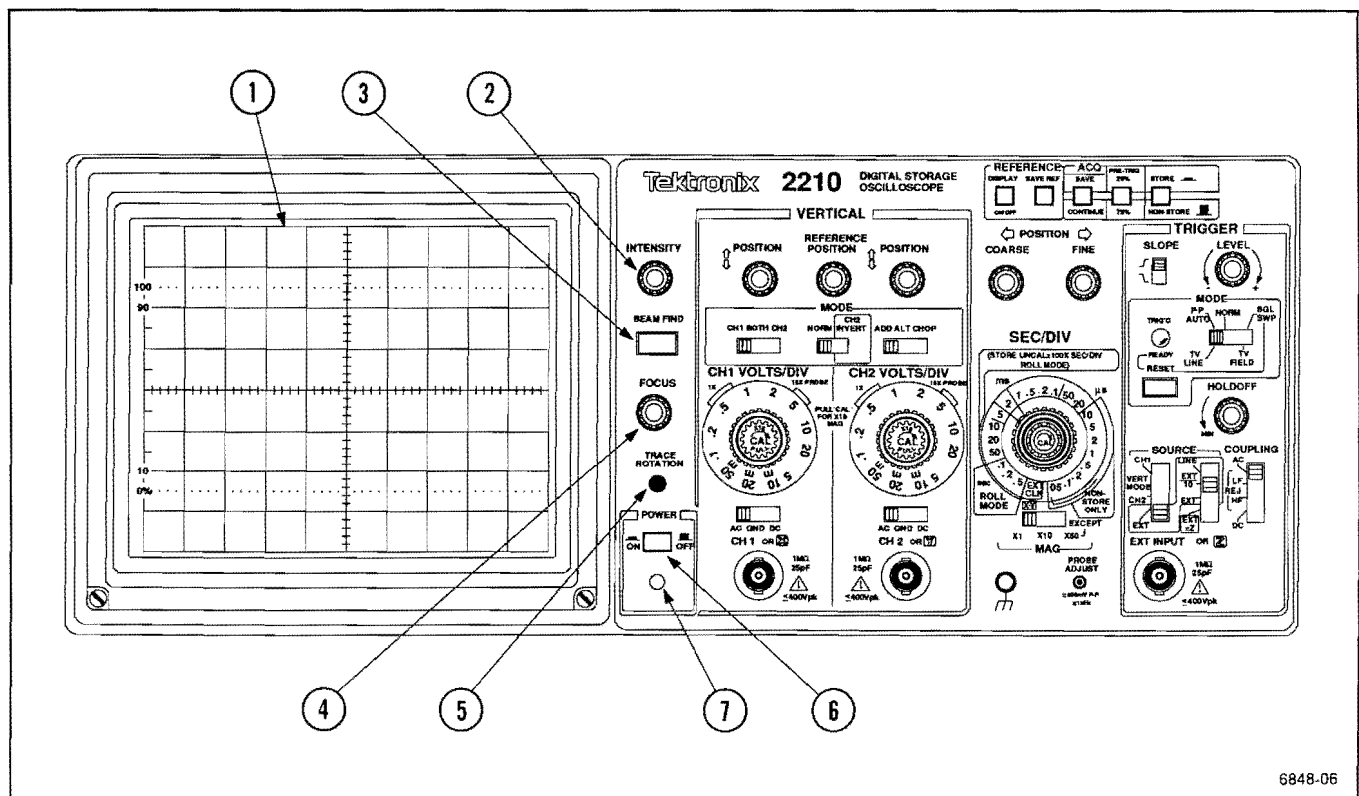

Figure 2-3. Power and Display controls and power-on indicator.
See Figure 2-3 for location of items 1 through 7.